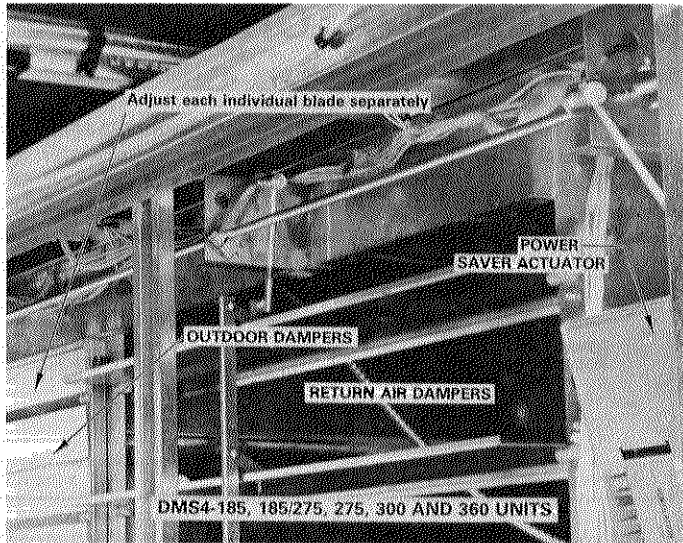
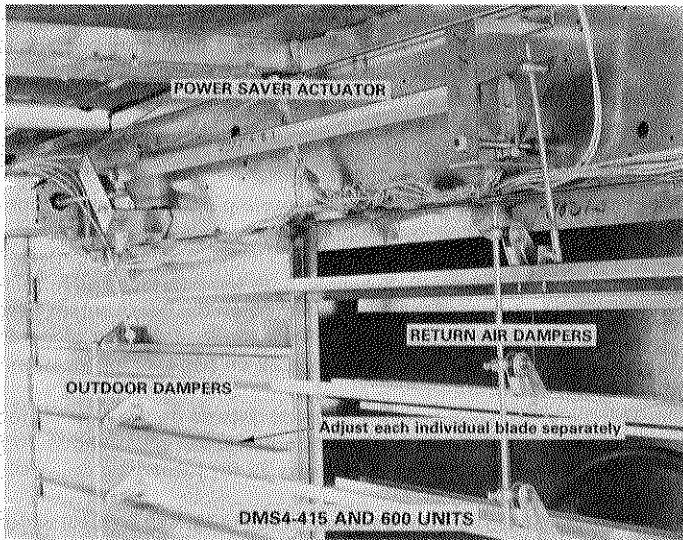

FIGURE 61
FIGURE 62
- 1 - Remove the lead from terminal TR at outdoor actuator to drive outdoor dampers closed and return air dampers open. Adjust each individual damper blade separately. Refer to Figure 61 for -185, 205, 300 & 360 units or Figure 62 for -415 & 600 units.